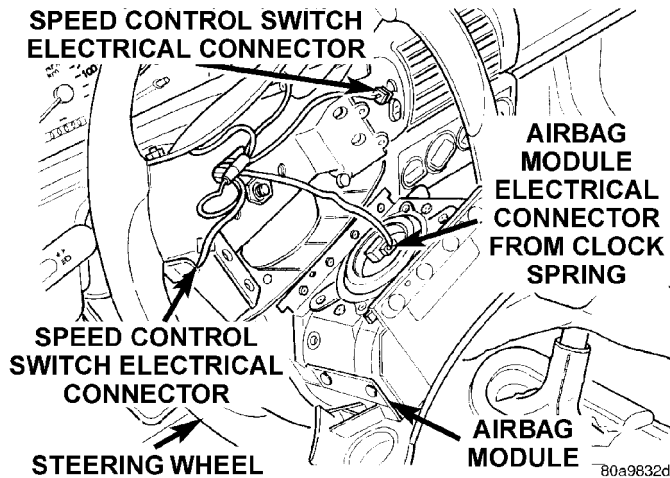

Fig. 10 Air Bag Module Electrical Connection
(7) Remove air bag module from center of steering wheel. Then disconnect the clock spring electrical lead from the back of the air bag module (Fig. 10).